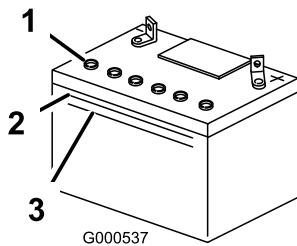

Figure 34
1. Look at the side of the battery. The electrolyte must be at the upper line (Figure 34).
Do not allow the electrolyte to fall below the lower line (Figure 34).
3. Remove the vent caps from the battery (Figure 34).
4. Slowly pour distilled water into each battery cell until the electrolyte level is up to the upper line (Figure 34) on the battery case.
6. Add distilled water, if necessary, until the electrolyte level is up to the upper line (Figure 34) on the battery case.